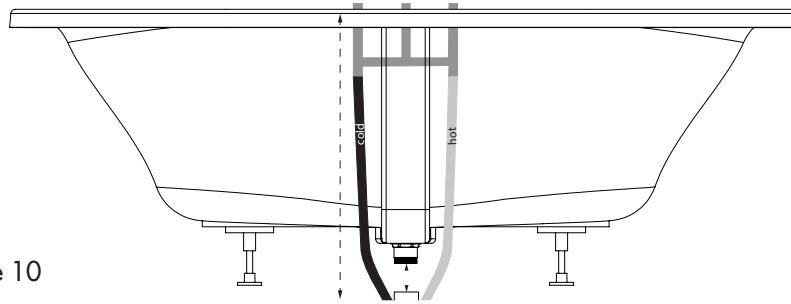

Figure 10
6. Confirm valve plumbing height. If additional measurements are needed, refer to Technical/Product Packet sheets located at: www.aquaticbath.com. (See Figure 10)
NOTE: Anticipate the height difference of glued-in 1 1/2" slip x female pipe thread adapter (not included) (See Figure 10)